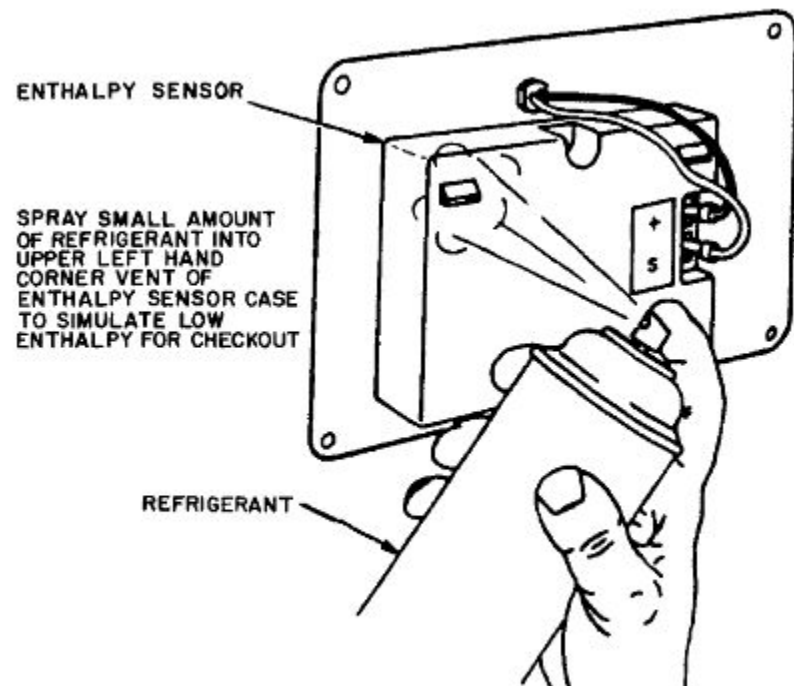

Fig. 28 – Use of Refrigerant Spray on Sensor to Simulate Low Enthalpy
6. Spray a small amount of refrigerant in the upper left hand vent of the enthalpy sensor to simulate low enthalpy conditions. See Fig. 28.